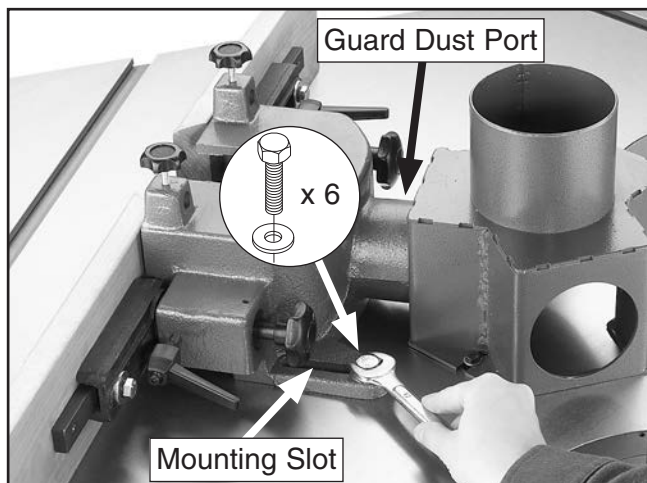

Figure 1. Securing fence assembly and guard to the table.
- Secure the fence and guard assemblies to the table with (6) M10-1.5 x 30 hex bolts and 10mm flat washers, as shown in **Figure 1**.